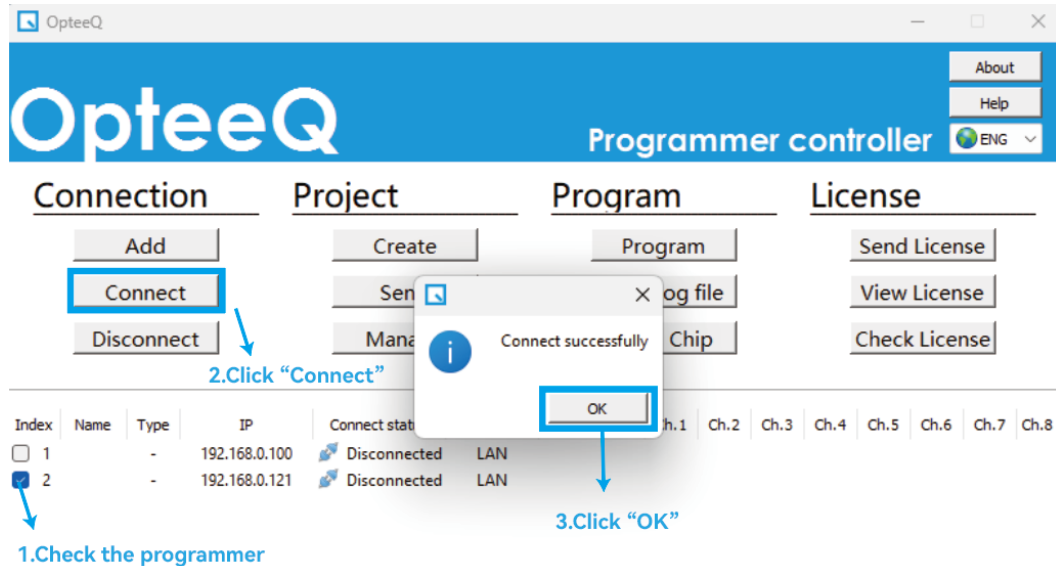

Figure 4.9 Programmer Connection
- 1) When the programmer is connected to a PC via the network cable, please make sure that the steps in Chapter 4.3 and 4.4.1 have been completed, namely the "Programmer Addition (Network Interface)" and "IP Address Setting for the Computer Network". Then, check the programmer under the corresponding serial number in the main interface of the programmer software before "Programmer Connection". Finally, click "Connect Programmer", as shown in Figure 4.9.